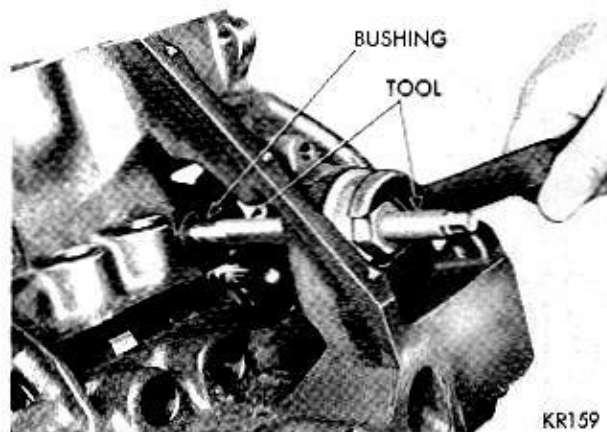

Fig. 31—Removing Distributor Drive Shaft Bushing
(1) Insert Tool C-3052 into the old bushing and thread down until a tight fit is obtained (Fig. 31).
(2) Hold remover screw and tighten nut until bushing is removed.